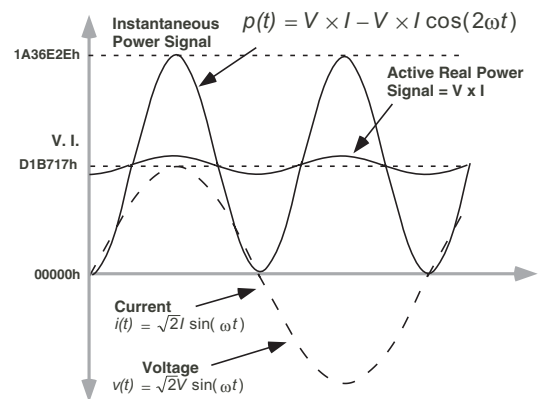

Figure 20- Active Power Calculation
P is referred to as the Active or Real Power. Note that the active power is equal to the DC component of the instantaneous power signal  $p(t)$  in Equation 5, i.e., VI. This is the relationship used to calculate active power in the ADE7754 for each phase. The instantaneous power signal  $p(t)$  is generated by multiplying the current and voltage signals in each phase. The DC component of the instantaneous power signal in each phase (A, B and C) is then extracted by LPF2 (Low Pass Filter) to obtain the active power information on each phase. This process is illustrated graphically on Figure 20. In a polyphase system, the total electrical power is simply the sum of the real power in all active phases. The different solutions available to process the total active power are discussed in the following paragraph.
As mentioned in the last section, the discrete time sample period (T) for the accumulation register is 0.4μs (4/CLKIN). With full-scale sinusoidal signals on the analog inputs and the Watt Gain registers set to 000h, the average word value from each LPF2 is D1B717h - see Figures 20 and 22. The maximum value which can be stored in the Active Energy register before it overflows is 223 -1 or 7F,FFFFh. As the average word value is added to the internal register, which can store 253 - 1 or 1F,FFFF,FFFF,FFFFh before it overflows, the integration time under these conditions with WDIV=0 is calculated as follows: